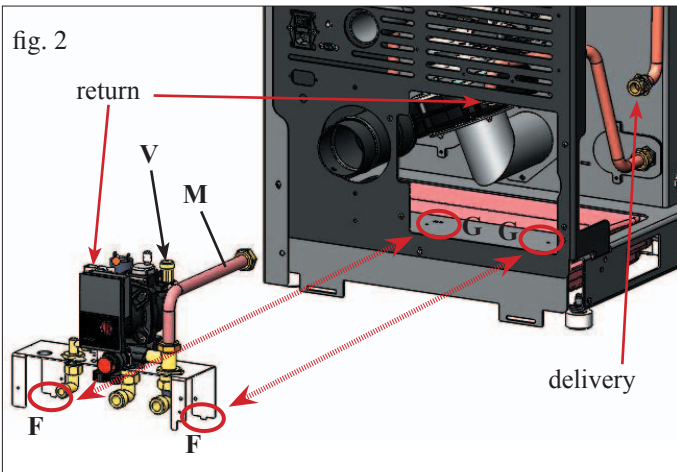

fig. 2
Connect the boiler delivery pipe to delivery pipe (M) on the hydraulic kit, inserting the 3/4" seal supplied and screwing them together with care (fig. 2).
Connect the flexible pipe of the expansion vessel to the V-fitting of the hydraulic kit (see Fig. 2)
Insert the boiler return pipe into the O-ring and couple it to the connection on the body of the circulator located on the kit, securing it with the special clip (fig. 2).